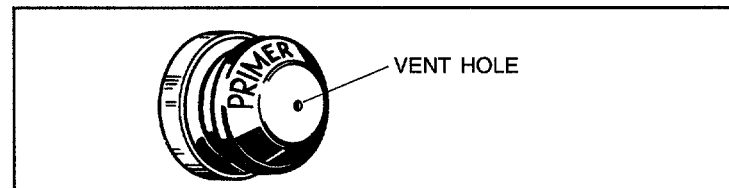

Figure 4
C. Push primer three times (see Figure 4). ALWAYS COVER vent hole when pushing primer. See warm engine restart "NOTE" above.
E. Push primer three times, making sure to cover vent hole when pushing (see Figure 4).